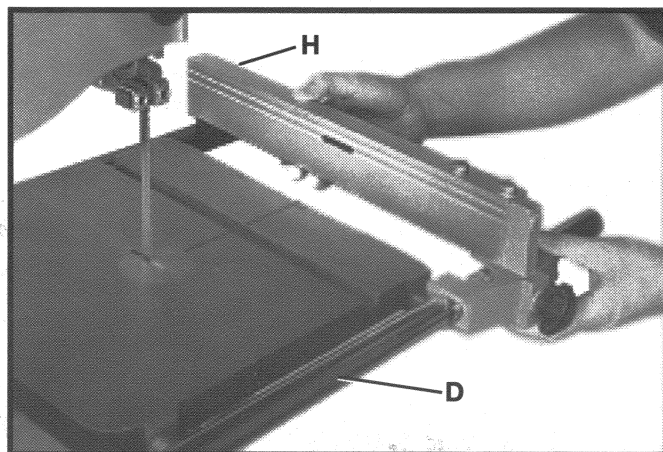

Fig. 4
4. Place the fence assembly (H) Fig. 4 on the front guide rail (D).
NOTE: Fence assembly (H) Fig. 4 will clamp to the front guide rail only, and rest on the rear guide rail.